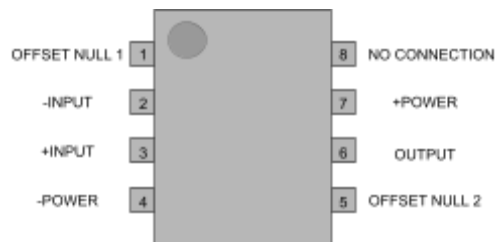

Figure 1: Pinout diagram of the TLE2071CP operational amplifier
- The pinout diagram of the op-amps used in this lab is shown in Figure 1. Be mindful of the orientation of the op-amp which is determined by the circle in the top left corner.